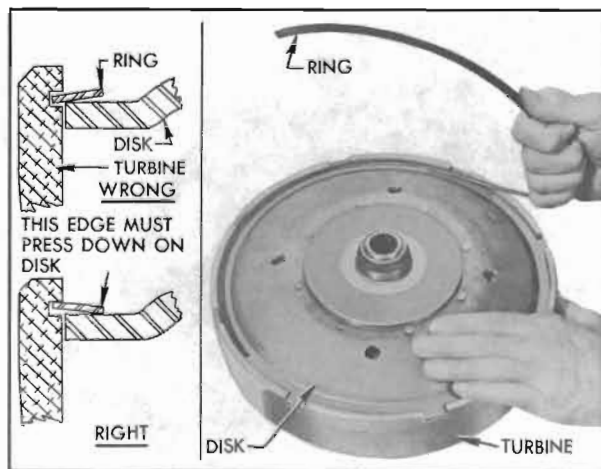

Figure 5-57—Installing Disk Retaining Ring
firmly against the disk when the ring is engaged in the groove in first turbine. See Figure 5-57.
18. Start one end of ring into groove in turbine, then twist the ring upward as shown in Figure 5-57 to lay the ring flat on the disk so that it can be progressively entered into the groove all the way around.